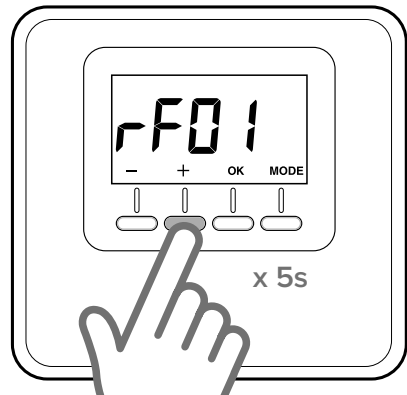

Fig. 7
- Hold “+” down for 5 seconds again to enter the technical parameters menu; parameter “rF01” will display (Fig. 7)